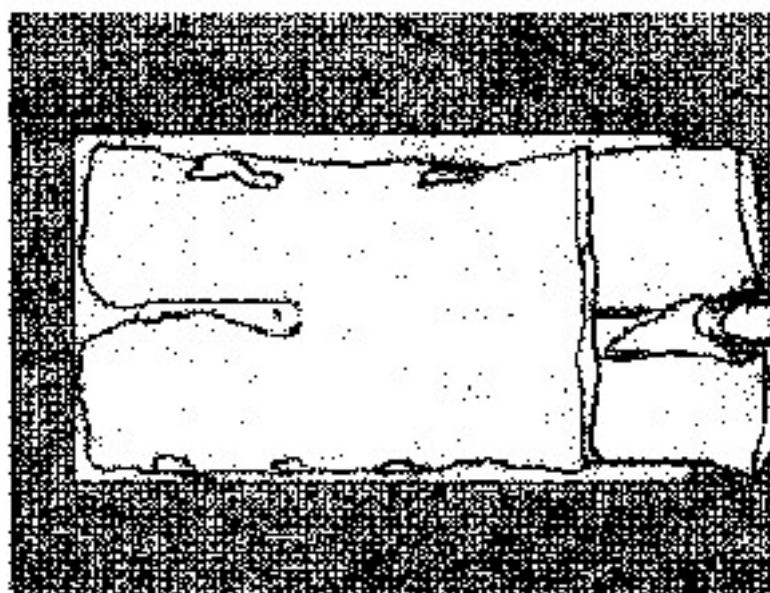

Figure 9
12. INSERT A POP-TOP TOOL THROUGH THE UPPER "O" GROMMET IN THE TOP FACE OF THE FREEBAG AND OUT THROUGH THE UPPER "O" GROMMET IN THE LOWER FACE OF THE FREEBAG. WRAP A STOW BAND SEVERAL TIMES AROUND THE END OF THE POP-TOP TOOL TO KEEP IT FROM SLIPPING OUT OF THE GROMMETS. (SEE FIG. 9)
13. CAREFULLY SLIDE THE FREEBAG OVER THE CANOPY, FILLING THE UPPERMOST PORTION OF THE FREEBAG WITH THE TWO SPLIT SECTIONS OF THE TOP OF THE CANOPY. ONE SECTION ON EITHER SIDE OF THE POP-TOP TOOL. BE SURE TO FILL THE CORNERS OF THE FREEBAG FIRMLY WITH CANOPY MATERIAL. (SEE FIG. 9)